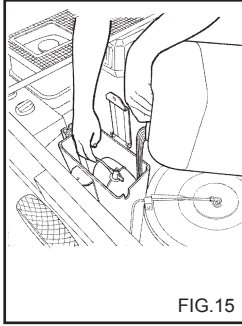

FIG.15
This chapter concerns only those models provided with the "pressure regulating" device. The pressure regulator, fig. 15, allows the operator to adjust the working pressure. When knob C is turned in an anti-clockwise direction (B) (minimum), the working pressure is reduced.
- 5) Pour about 3 litres of antifreeze into the water tank (fig. 15).